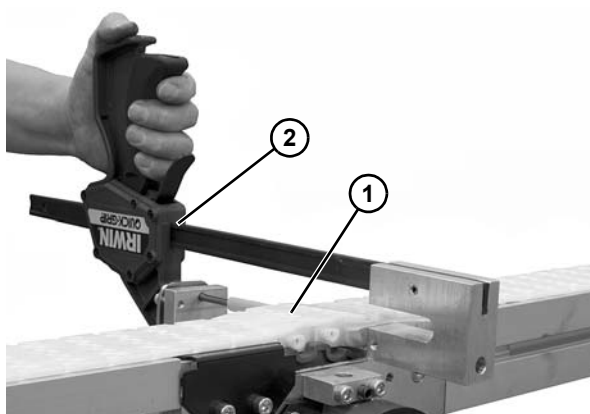

Figure 67
4. Install belt around conveyor ends and bring the ends of the belt (**Figure 67, item 1**) together.
5. Insert the belt rod. Use a punch and hammer or belt removal tool #203480 (**Figure 67, item 2**) to press pin just below flush with side of belt. Stop when pin detent is felt.